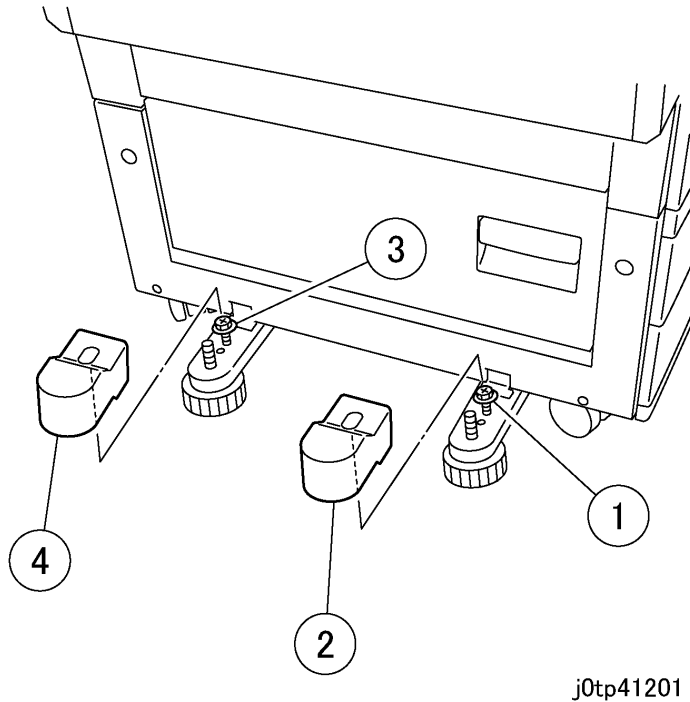

Figure 1 Removing the Foot Covers (j0tp41201)
2. Remove the Foot Covers. (Figure 1)